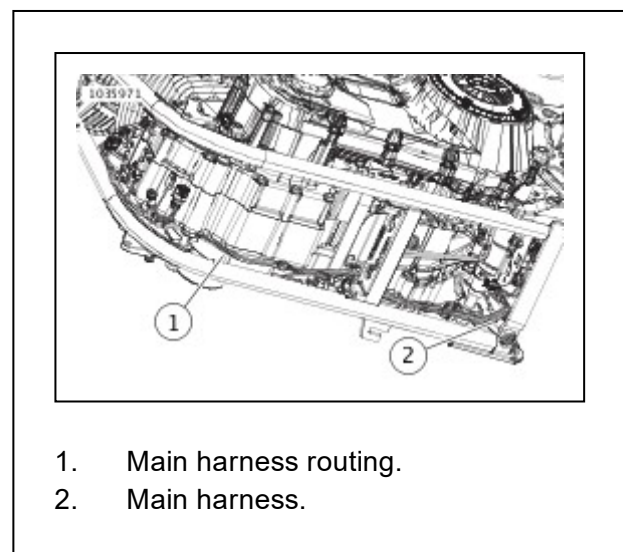

Figure 20. Harness Routing
16. See Figure 20. Front HO2 sensor (long harness lead):
- Locate main harness (2).
- Route harness along main harness (1) toward the front O2 sensor connector.